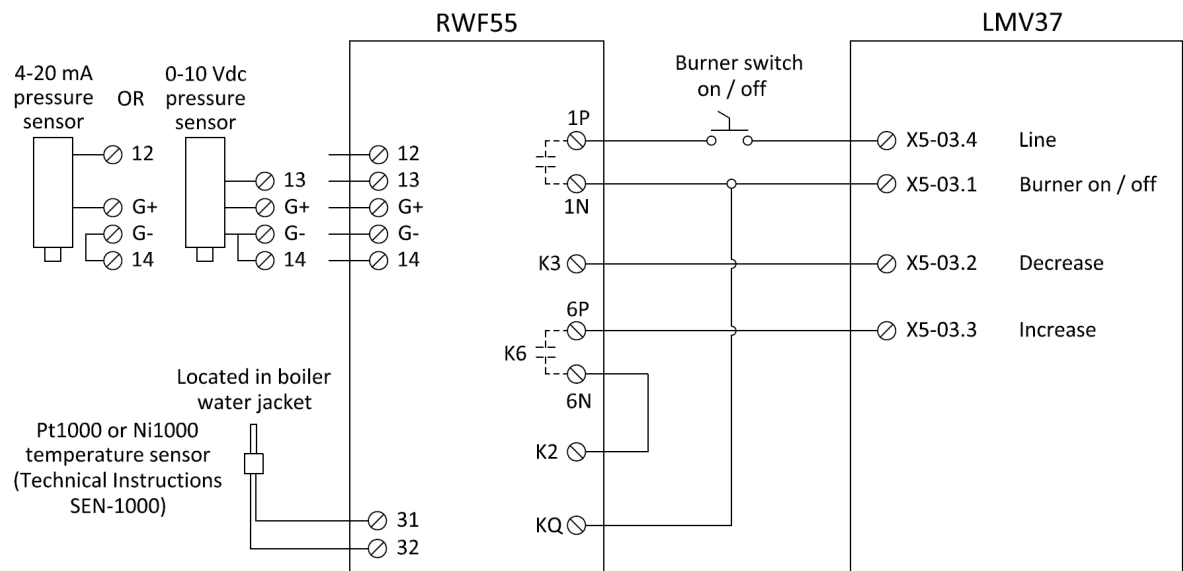

Figure 7: Low Fire Hold via 3-position Output on a Steam Boiler
2. Wire the LMV37 and RWF55 as shown in Figure 7: